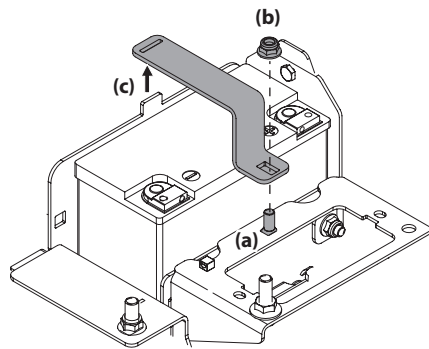

Figure 4-7
4. Locate and hold the carriage bolt (a) at the front of the battery bracket (c) to prevent it from falling. See Figure 4-7.
5. Remove the hex lock nut (b) securing the battery bracket (c) in place. Save the carriage bolt and hex lock nut for later reinstallation. See Figure 4-7.
6. Lift the battery bracket (c) off from the tab at the left side of the battery compartment and save for later reinstallation. See Figure 4-7